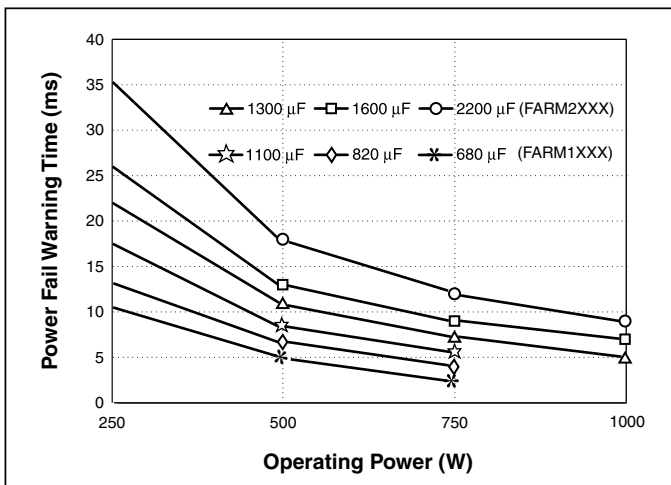

Figure 14 — Power fail warning time vs. operating power and total bus capacitance, series combination of C1, C2 (see Fig. 9)
Calculated values of bus capacitance for various hold-up time, ride-through time, and ripple voltage requirements are given as a function of operating power level in Figures 14, 15, and 16, respectively.
**Warning.** Figure 14 is used to determine capacitance for a given power fail warning time and power level, and shows that the total bus capacitance must be at least 820  $\mu\text{F}$ . Since two capacitors are used in series, each capacitor must be at least 1,640  $\mu\text{F}$ . Note that warning time is not dependent on line voltage. A hold-up capacitor calculator is available on the Vicor website, at [vicorpower.com/hubcalc](http://vicorpower.com/hubcalc).